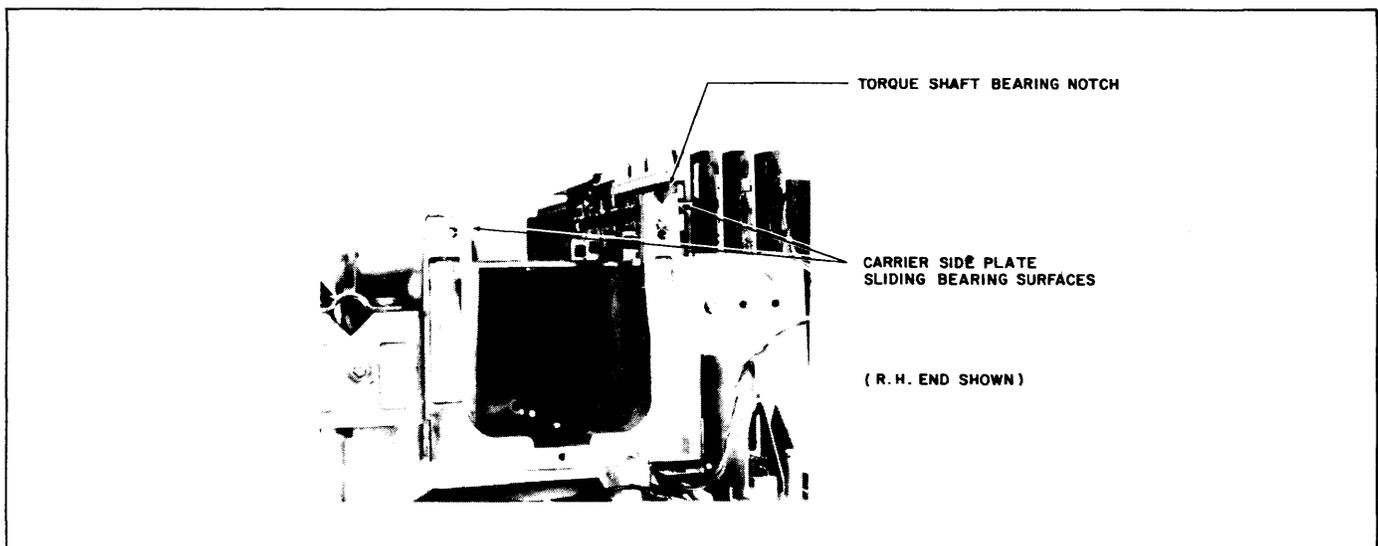

Figure 3-11. Carrier System Replacement
- (1) Clean all carrier subassembly bearing surfaces on the printer main frame of old grease, etc. Reapply a light coating of multipurpose grease to these points, on both ends of the main frame. Refer to Figure 3-11.